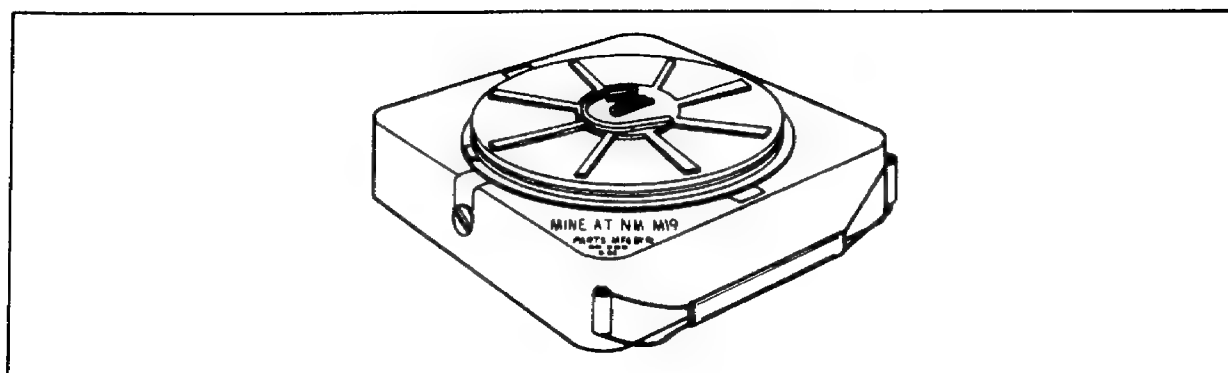

Figure 58. Mine, Antitank, HE, Nonmetallic, M19.
**Mine, Antitank, HE, Nonmetallic, M19.** The M19 antitank mine (Figure 58) is nearly all plastic, so it is not detectable by magnetic mine detectors. This mine is easily identified by its box shape approximately 13 inches square by 3 inches high.